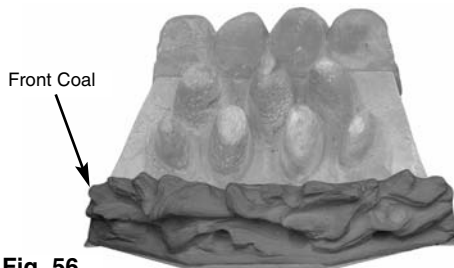

Fig. 56
3. Position the front coal on the front coal retainer, making sure that the back edge is pushed up against the front of the burner strip (Fig. 56).